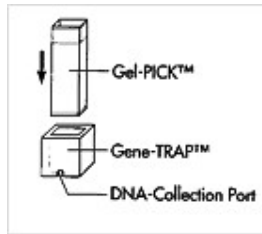

Figure 1: GeneCAPSULE™
5. Taking it in turns, each pair of students uses the gel pick (Figure 1) to carefully excise a band from the DNA Ladder.